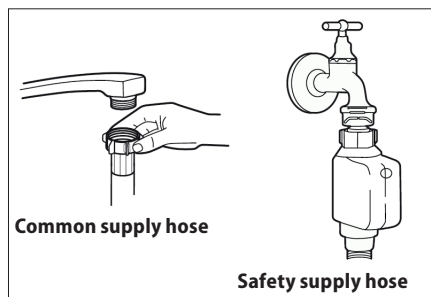

Fig. 17
4. Connect the inlet hose to the water supply according to Fig. 17.